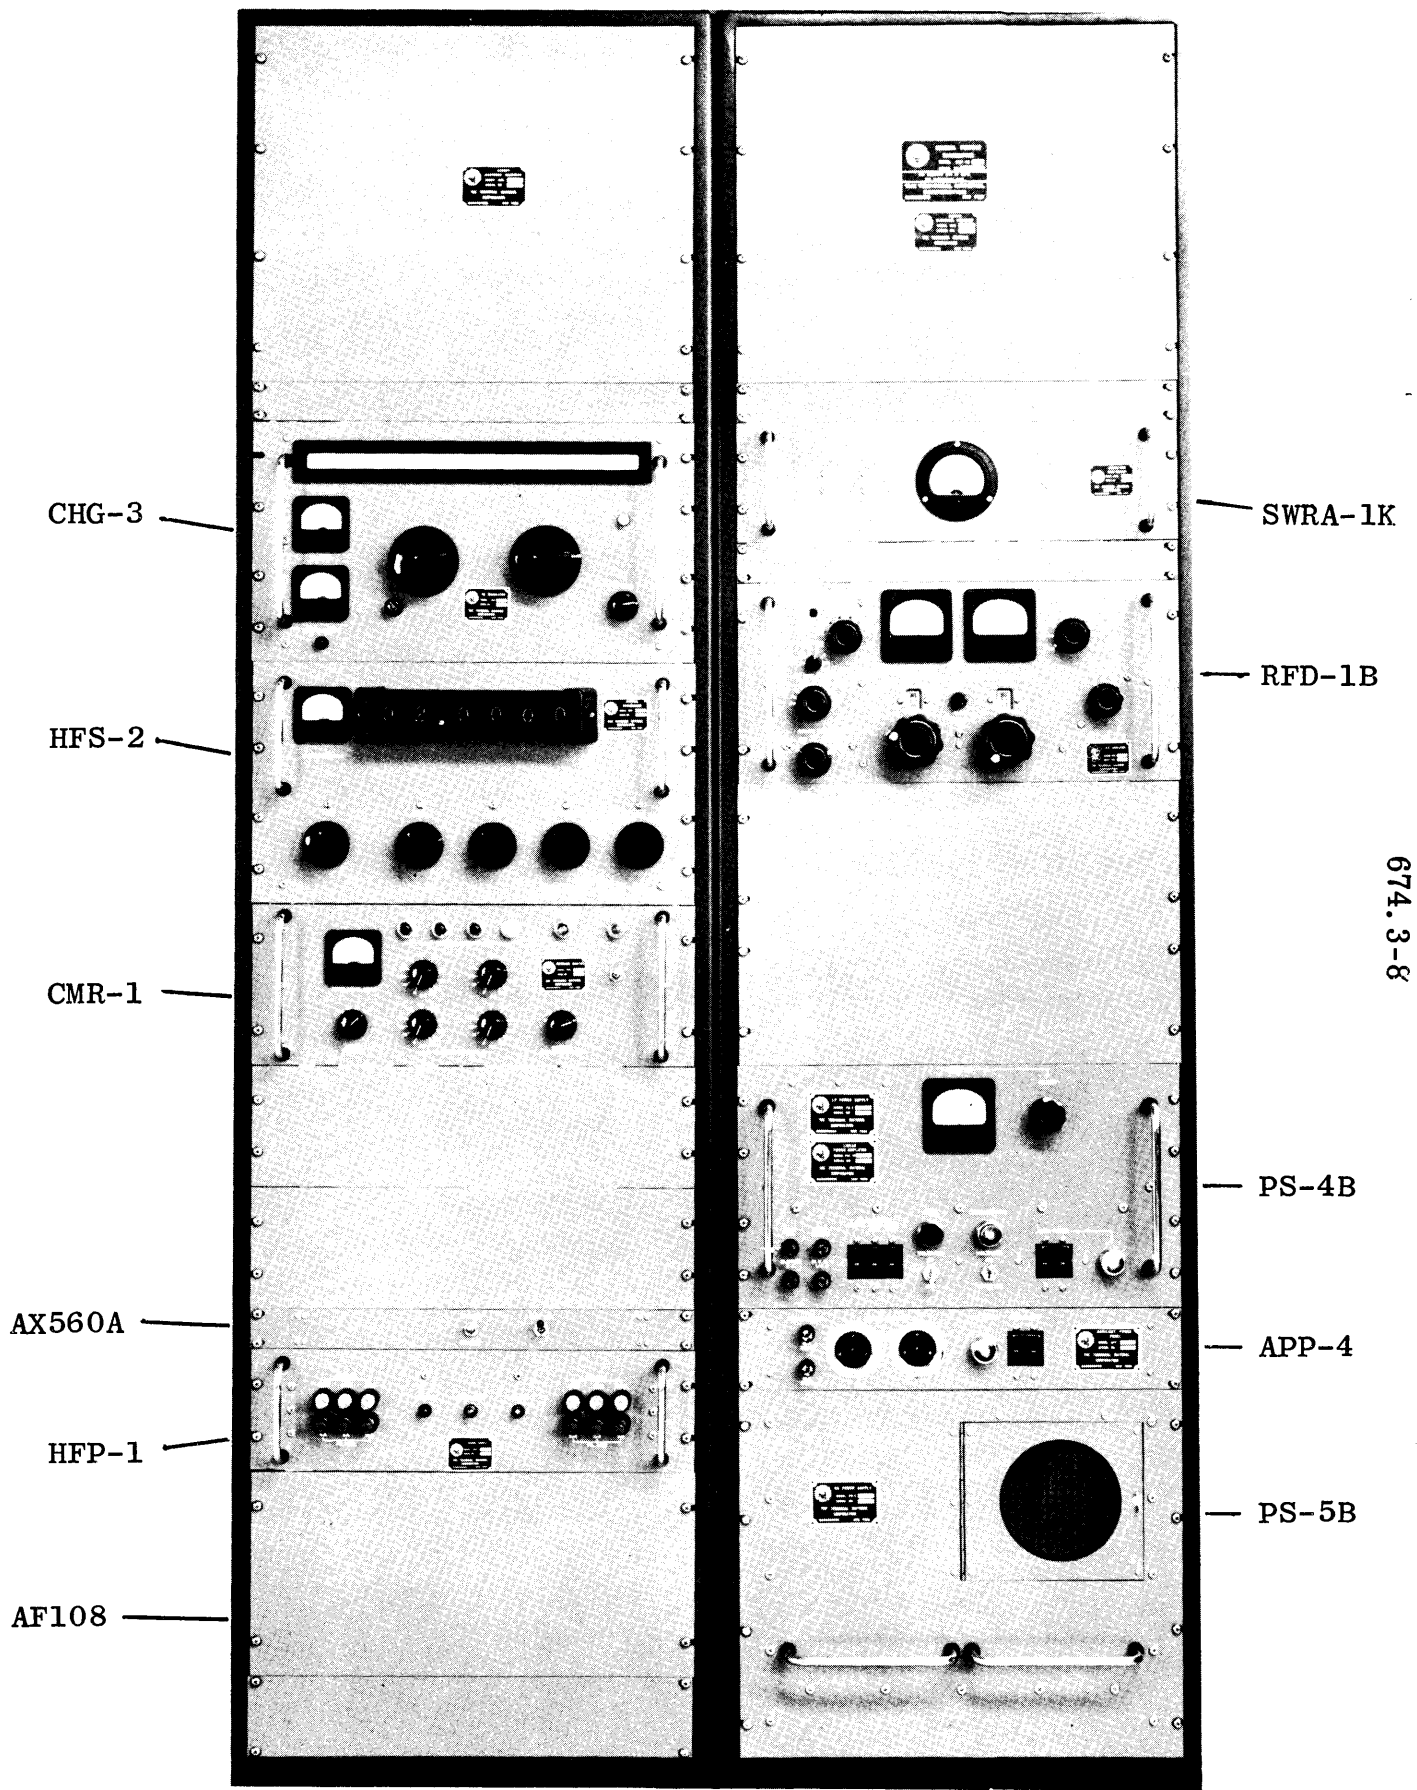
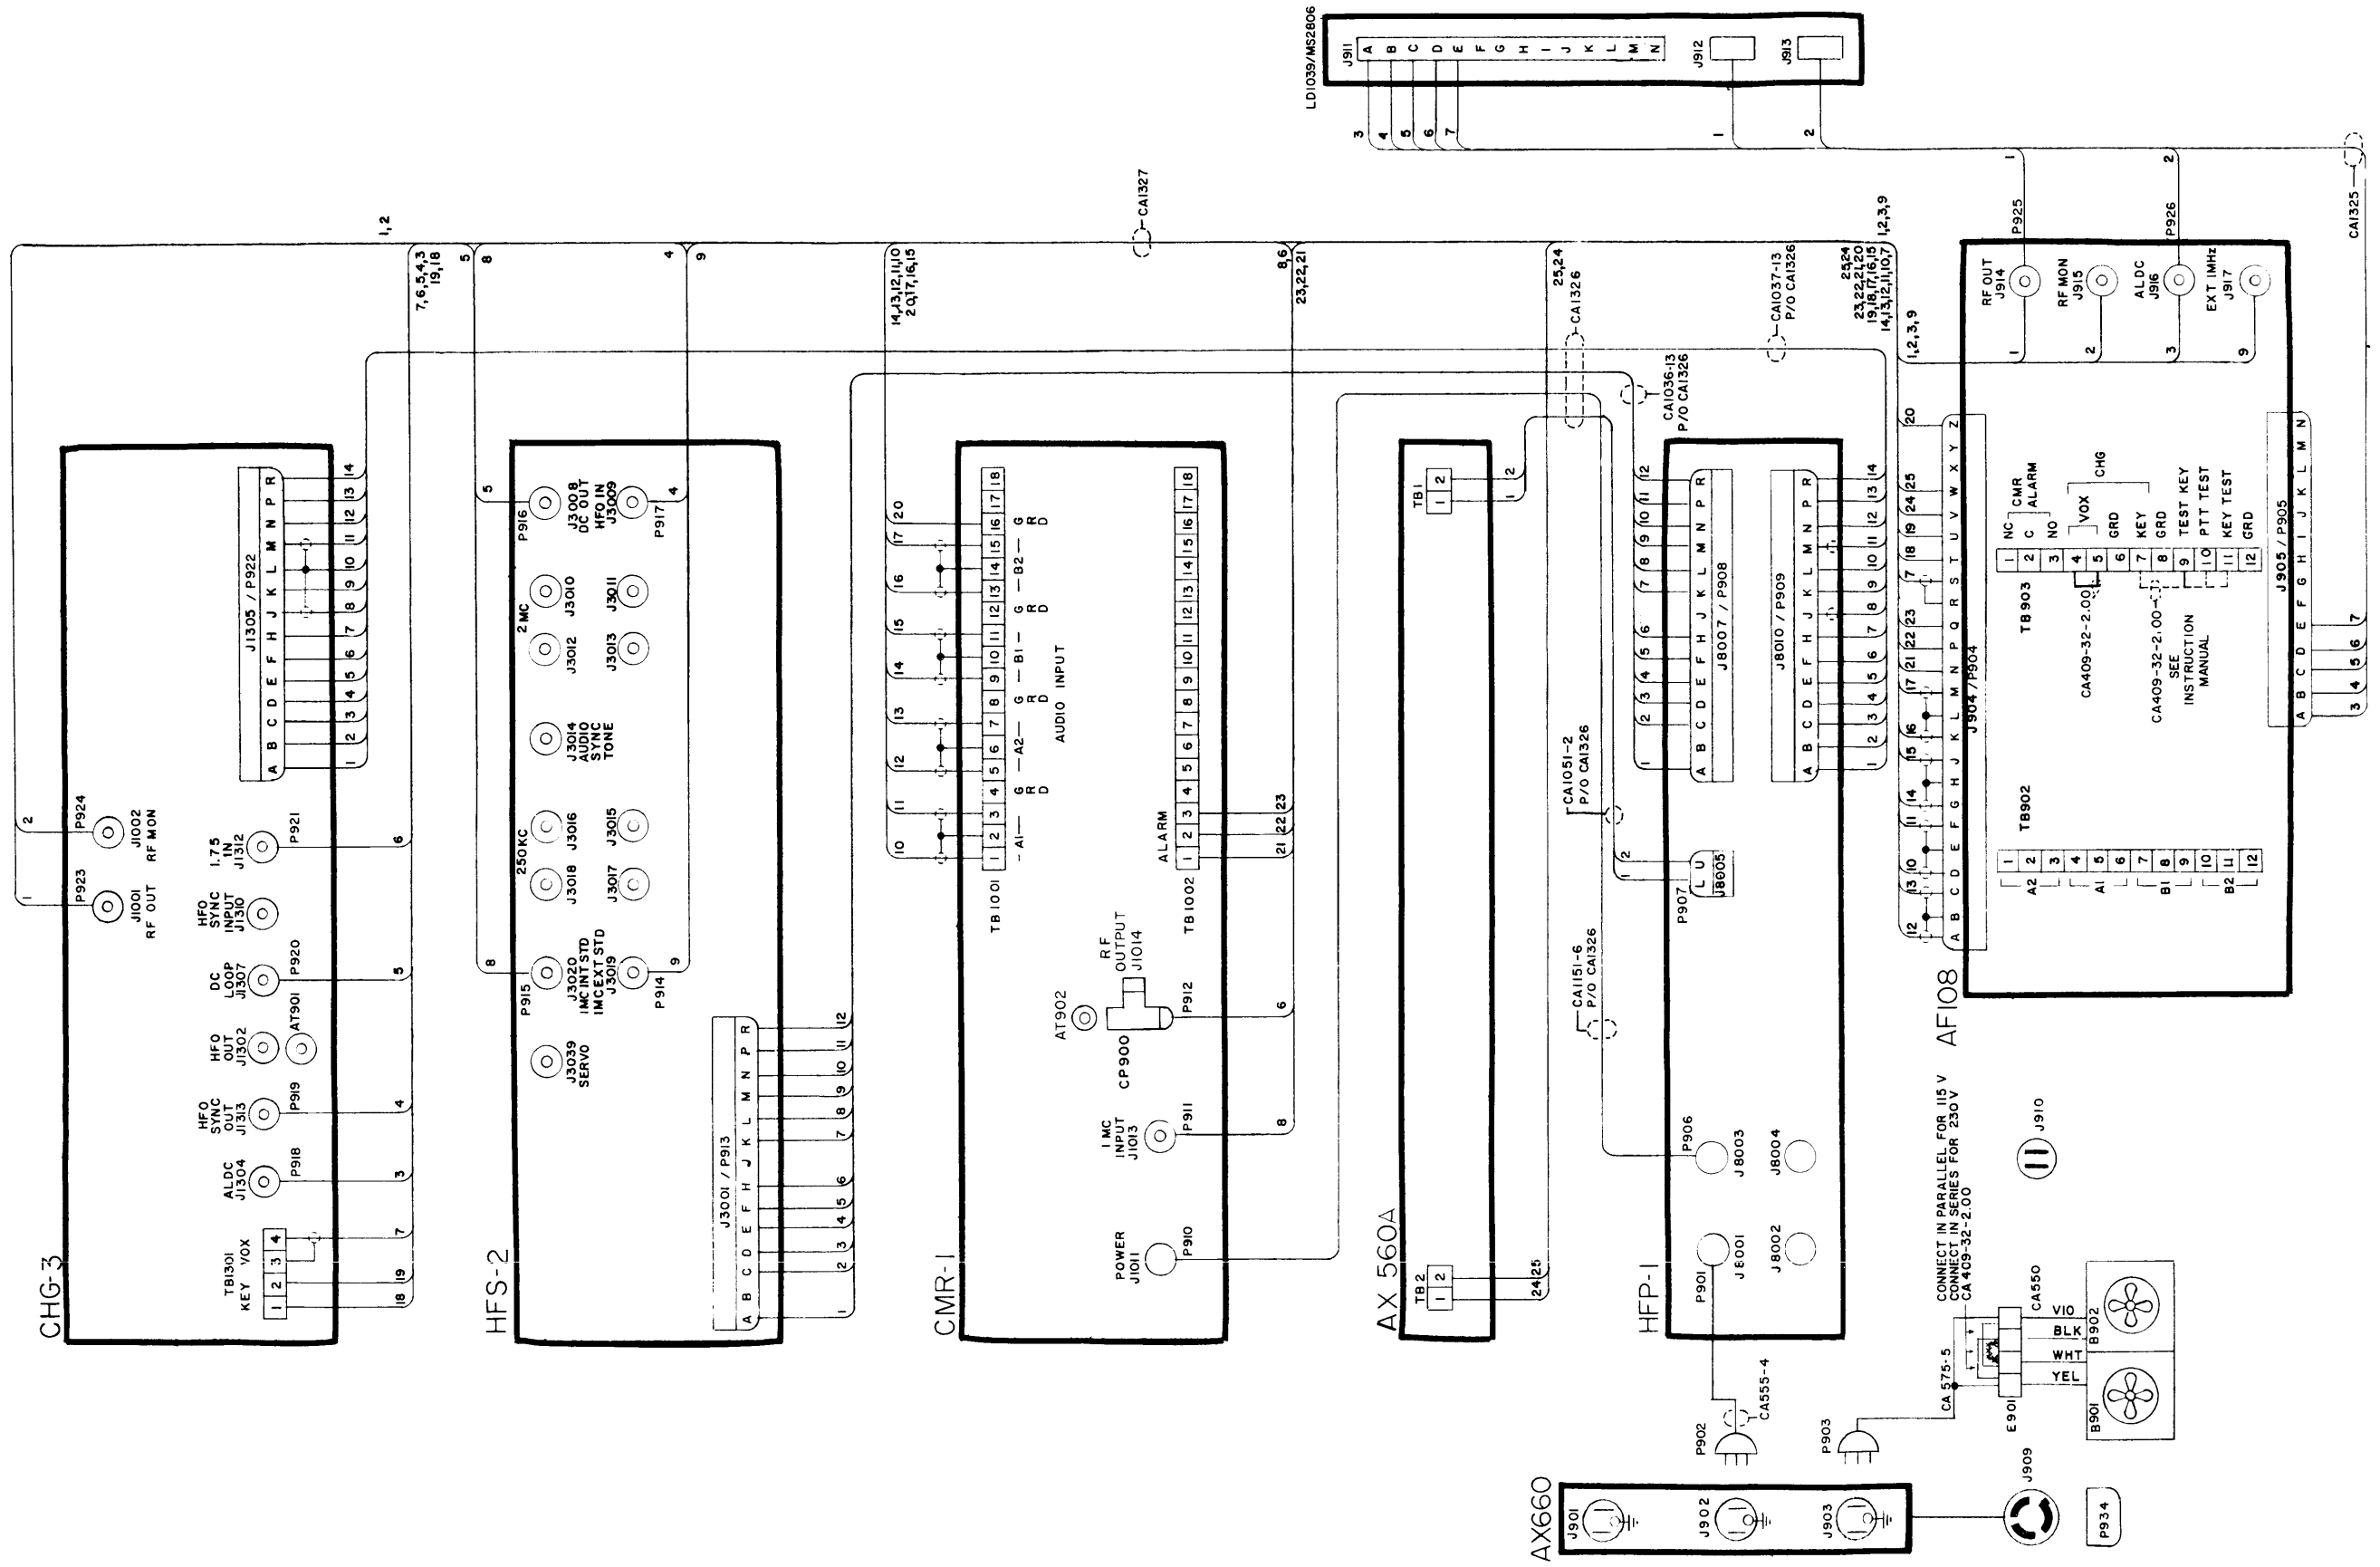

Figure 1-1. General Purpose Transmitter, Model SBT-1KPA2
Figure 2-3. Interconnection Diagram, Exciter Section
General Purpose Radio Transmitter, Model SBT-1KPA2 (figure 1-1) is a general purpose transmitter system providing 1000 watts peak envelope power (PEP) throughout the 2 to 32 megacycle (MHz) frequency range.
The major components comprising the SBT are listed in table 1-1. See figure 1-1 for physical equipment mounting locations and paragraph 1-3 for component descriptions.
All of the units used in the SBT system are equipped with standard width 19-inch front panels. These units are to be mounted in the equipment rack as shown in figure 1-1. Figures 2-3 and 2-4 illustrate electrical interconnections of the SBT modular units. Refer to the individual technical and sub-system manuals for detailed connection and installation procedures.
a. INSTALLATION OF MODULAR UNITS. - Refer to figure 1-1 for modular unit mounting locations. All major units are slide-mounted on pull-out, or tilt-lock drawer slides. To install any slide-mounted unit in its compartment, see figure 2-1 and proceed as follows:
4. Make necessary cable and electrical connections as shown in figures 2-3 and 2-4. To prevent cables from snagging, utilize the cable retractors, located at the inside-rear of the rack.
See figures 2-3 and 2-4 for complete wiring and cabling details.
The following pre-operational checkout procedures are to be performed after final installation is completed; all interconnections and input power cables connected as per figures 2-3 and 2-4. Further checkout procedures for the individual modular units are presented in their associated technical manuals. Refer to table 2-1 for test equipment required.